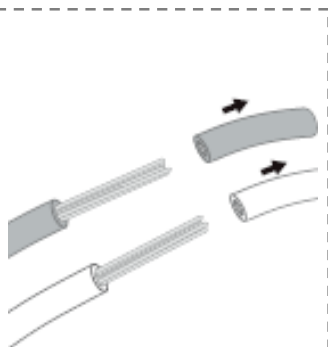

Figure 12
2. Strip wire ends about 1.5" (Figure 12)
Use a mini flathead screwdriver to change the tone and volume switches on back of the display (Figure 12)